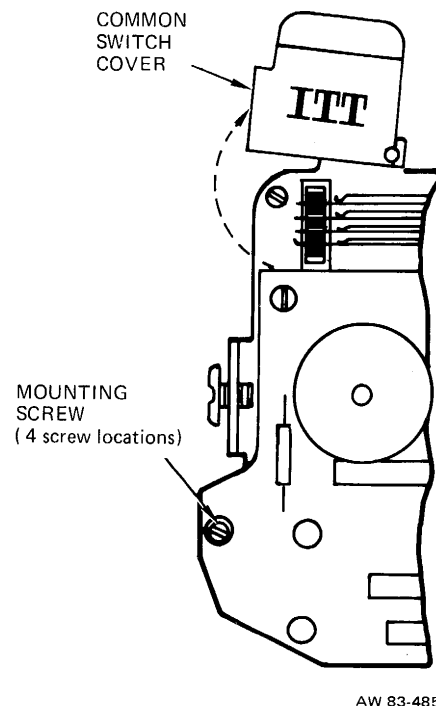

Figure 5: Rear View of Dial
- (a) Rotate the common switch cover clockwise until it clears the printed circuit board. Lift upward to remove the spring cover from the screw threads, if desired. (See Figure 5.)
- (b) Loosen the four screws that hold the mounting plate assembly to the cover plate. Note that one of the screws is located under the printed circuit board. A small screwdriver can be inserted through the hole in the printed circuit board and the screw can be loosened as the mounting plate is lifted from the cover plate. (See Figure 5.)